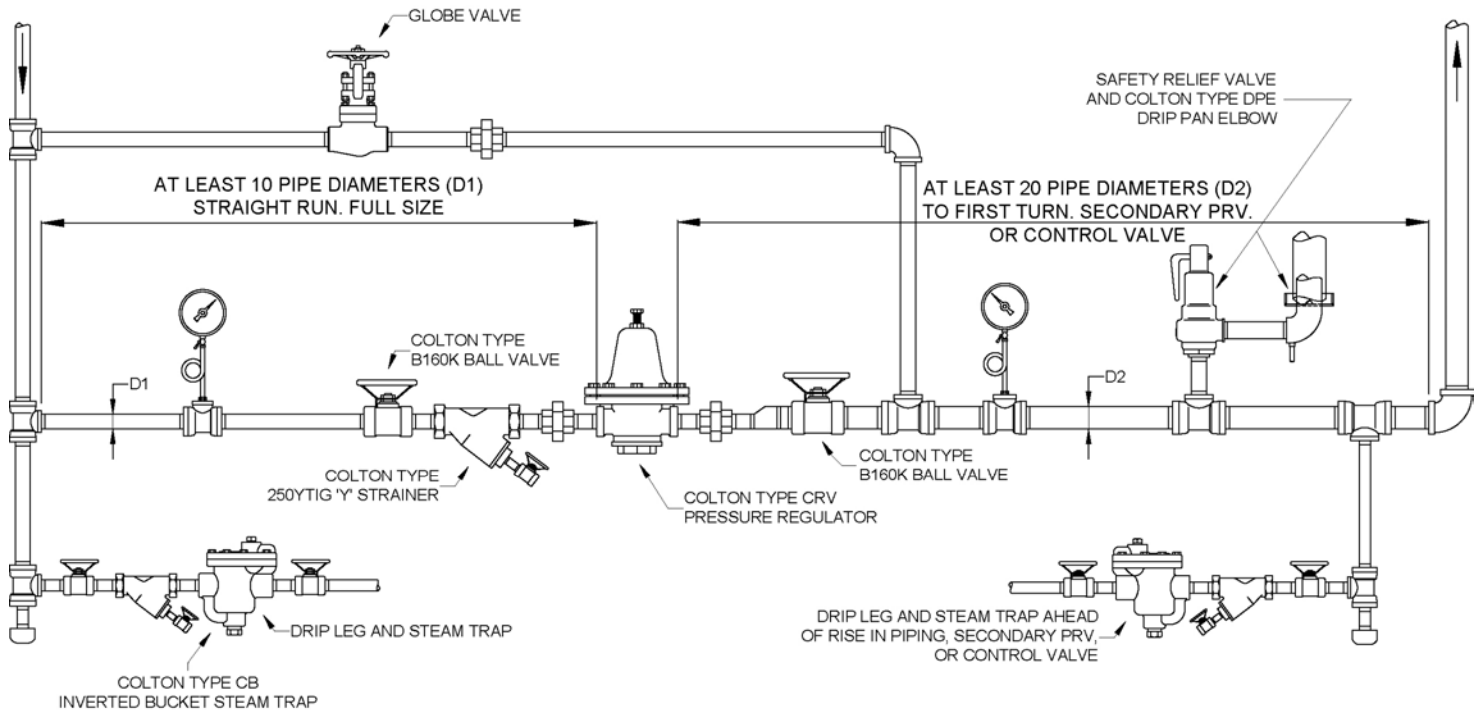

FIG. 1 – RECOMMENDED INSTALLATION OF TYPE CRV REGULATOR
1. Locate the pressure regulator in a straight run of horizontal piping. (See Fig. 1)
4. Avoid the damaging effects of scale and dirt in pipe lines by installing a Colton 'Y' strainer as shown in Fig. 1
6. If the pressure rating of the downstream piping or connected equipment is less than the supply pressure, install a safety valve and drip pan elbow as shown in Fig. 1